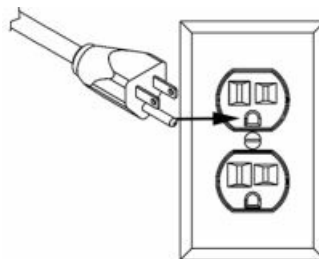

Figure 1
- This appliance is designed for use on a 120-volt circuit. The grounding plug provided looks like the plug illustrated in Figure 1. Replace the power cord if the grounding pin is damaged or broken.